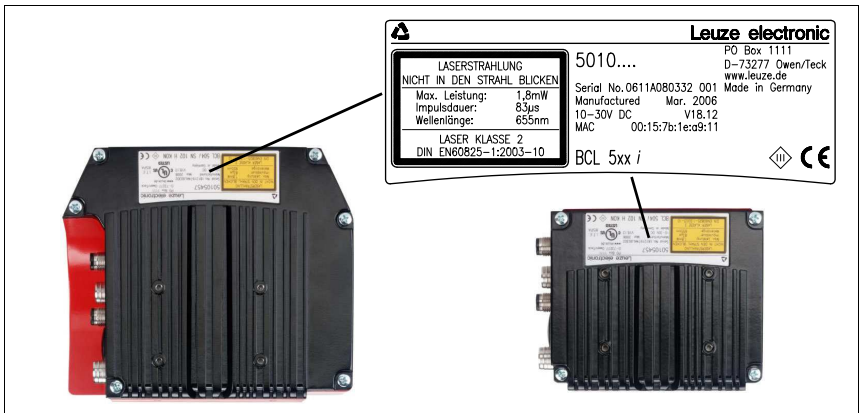

Figure 6.1: Device name plate BCL 548i
*The black areas in figure 6.1 are the housing base. The best read results are obtained when:*